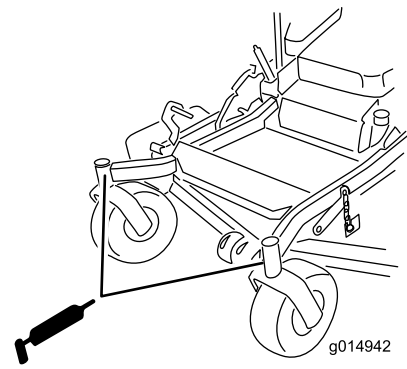

Figure 40
10. Remove the grease fitting in the hole. Install the hex plug and dust cap (Figure 40).